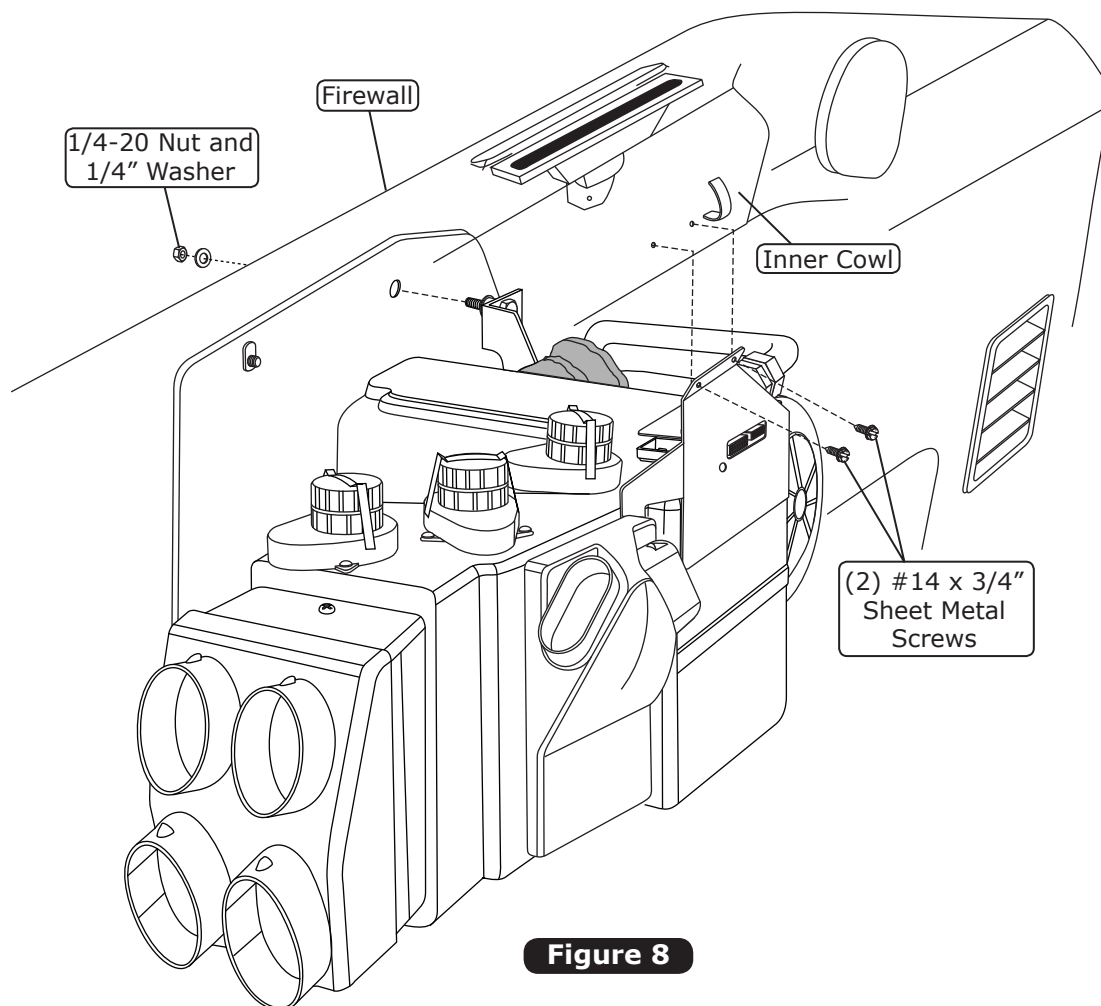

Figure 8
1. Lift the evaporator unit up under the dashboard, and secure it loosely to the firewall from the engine compartment using a 1/4-20 nut and a 1/4" washer as shown in Figure 8, below.
2. Using (2) #14 x 3/4" sheet metal screws, secure the front evaporator mounting bracket to the inner cowl (See Figure 8, below). **NOTE: To ensure proper drainage, it is very important that the evaporator is level, both left-right and fore-aft. Check for level on the flat portions of the case around the drain.**